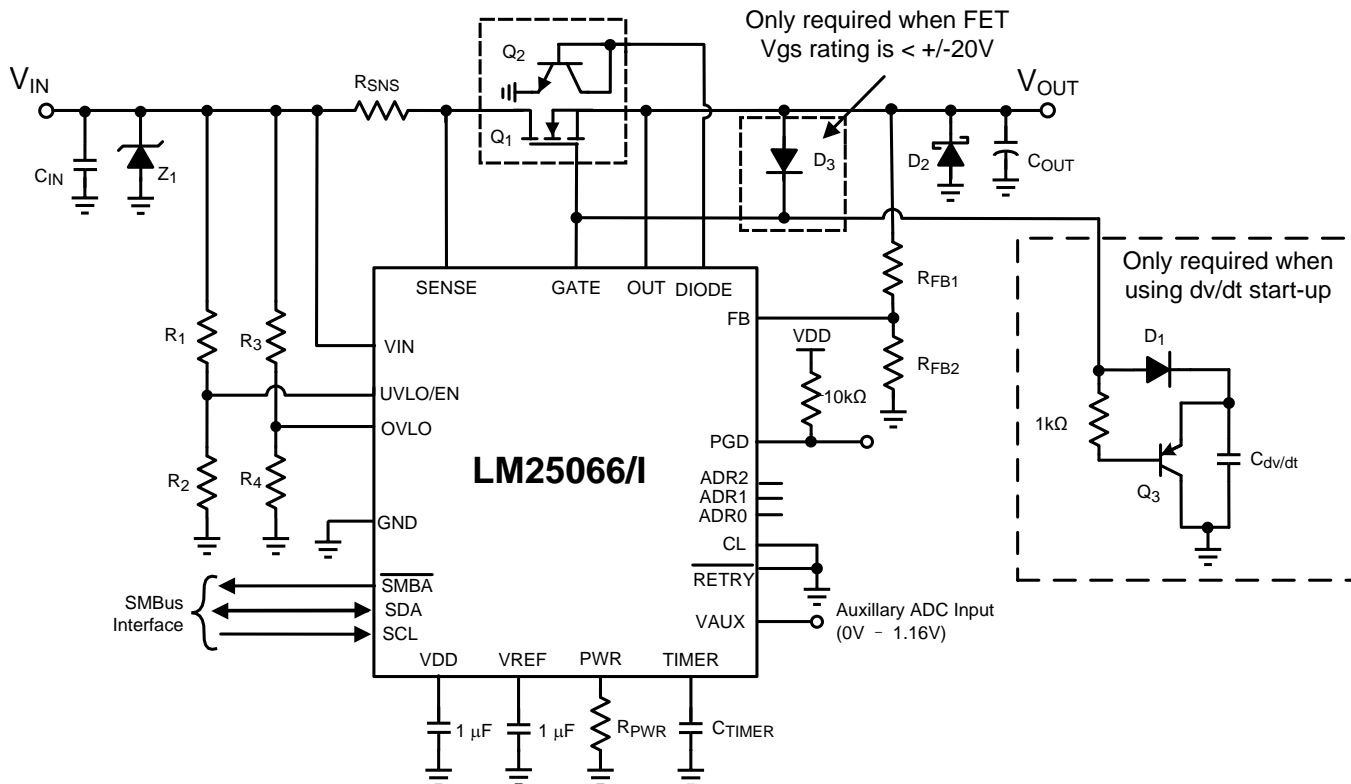

Figure 38. Typical Application Circuit
- Otherwise, a diode (D3 in Figure 38) can be used to protect MOSFETs with a ± 12 V V_{GS} rating.